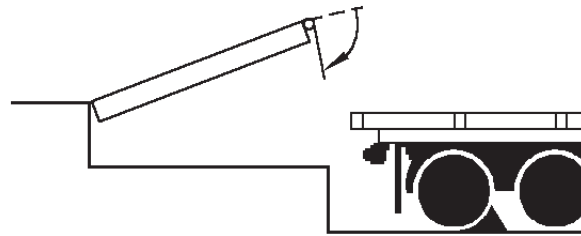

Figure 17
6. When loading or unloading is finished, raise the platform by pressing and holding the RAISE button until the lip folds enough to land in the lip keepers, then release the RAISE button. The platform will return to the cross-traffic position. See Figure 17.